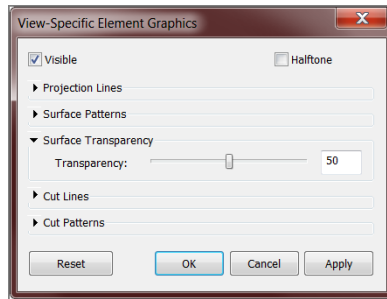

FIGURE 9.11: The View-Specific Element Graphics dialog box
5. In the **View-Specific Element Graphics** dialog box, select the small downward-pointing arrow in the **Surface Transparency** row, and slide **Transparency** to 50 percent. See Figure 9.11.